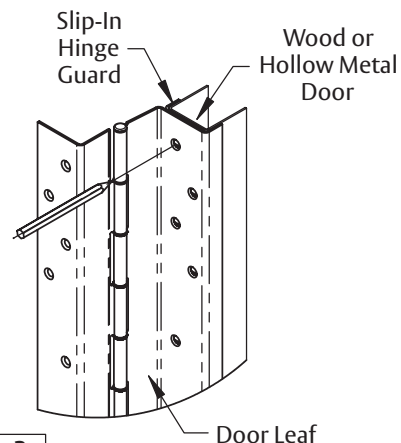

Fig. 3
(1) Per Assembly All Others
A. Place hinge door leaf on edge of door. Position top of hinge flush with top of door (Fig. 3).